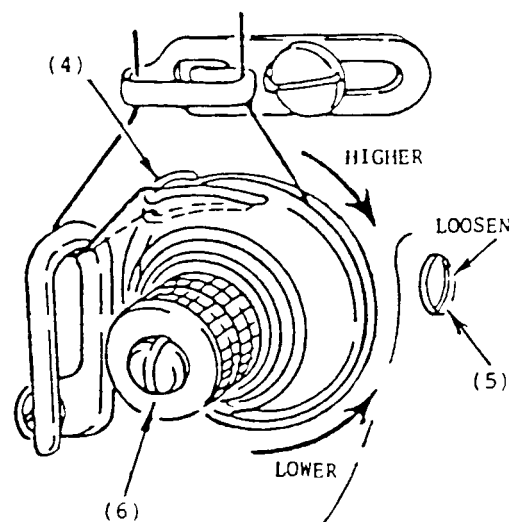

Fig. 3
Turn machine pulley over toward operator slowly. When take-up lever begins to rise, check spring (4), Fig. 3 makes a slight dip and a return to its higher position. Later, as take-up lever approaches top of stroke, check spring (4) should be drawn all the way down; setting the stitch. As lever descends, check spring (4) returns to rest.
Loosen screw (5), Fig. 3. Turn stud (6), Fig. 3 (at the same time turning entire tension assembly) either over toward left to lower check spring and decrease its movement, or over toward right to raise check spring and increase its movement. Securely tighten set screw (5).